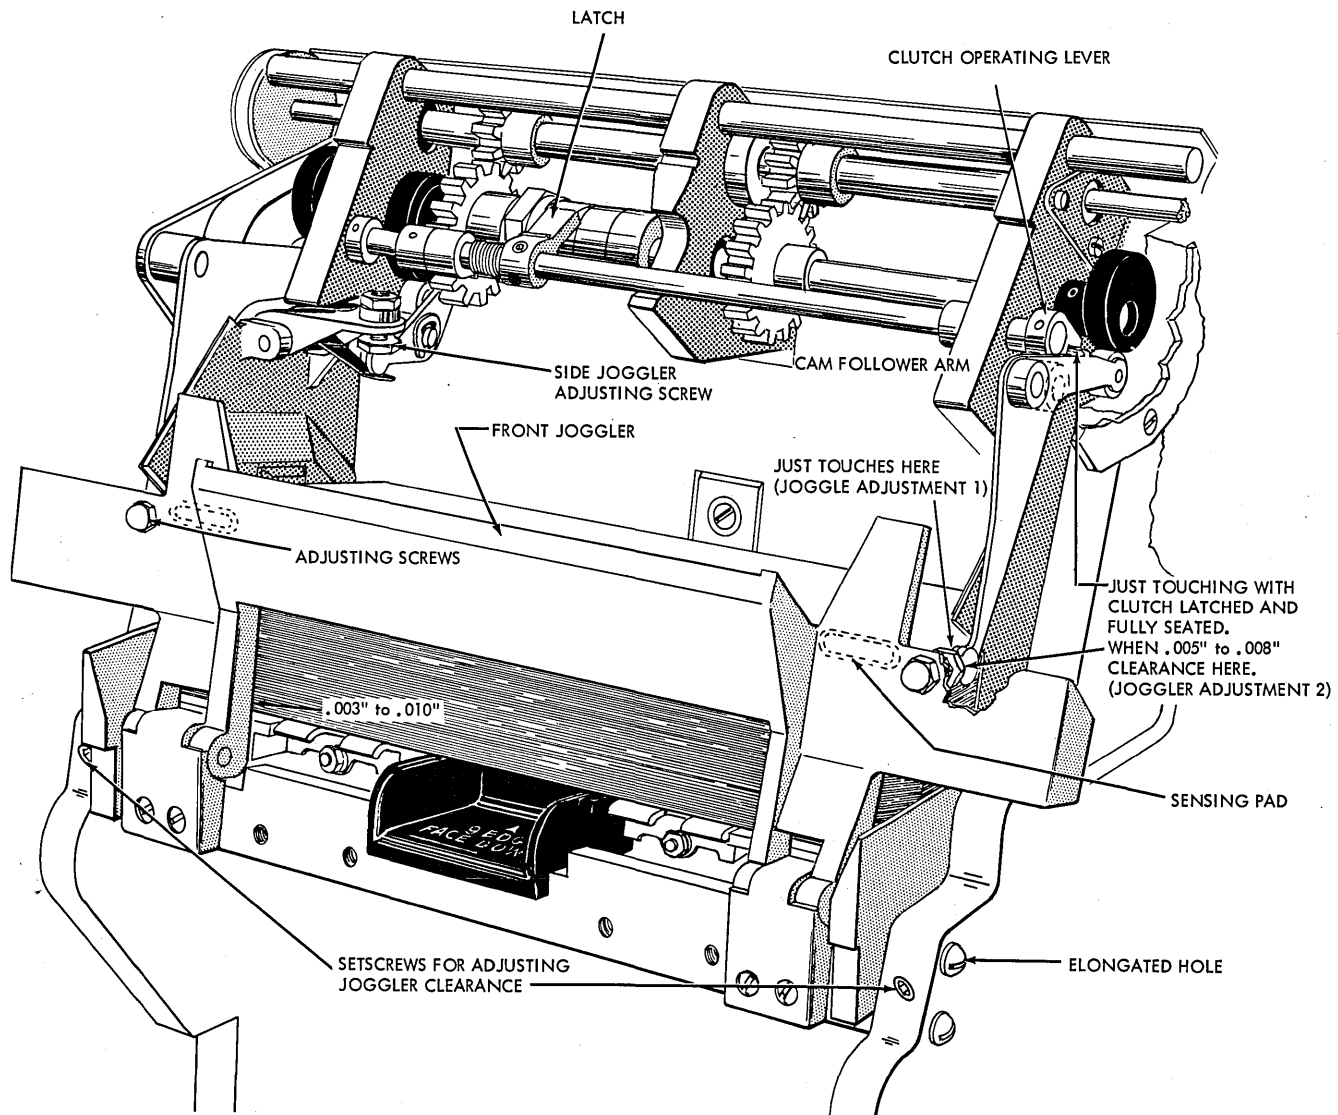

Figure 2-10. Lower Magazine Throat
1. Turn the file feed drive unit until the front joggler cam followers are on the low dwells of the cams. Fill the hopper to just below the sensing pads on the front joggler and close joggler. Set the adjusting screws on the joggler to just touch the operating arms (Figure 2-10). Under these conditions there should be .003" to .010" clearance between the cards and the lower end of the joggling surfaces (the lower end of the joggling surfaces is in line with the top of the card feed knife posts). This clearance is obtained by adjusting the hopper post mounting bar with the set screw (Figure 2-10). The hopper posts will now have to be adjusted (Refer to Hopper Adjustments).
cam follower against the cam, and continue to operate the unit. Stop when .005" to .008" clearance appears between the cam follower arm and the adjusting screws. Loosen the clutch operating lever on its pivot shaft and fully seat the clutch latch. With the cam follower against the cam, position the clutch operating lever so that it just touches the turned-over ear on the cam follower arm (Figure 2-10). Tighten the set screws in the clutch operating lever, securing it to its shaft.